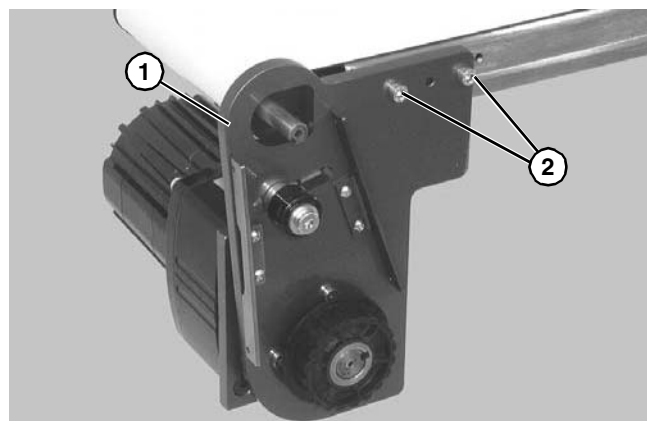

Figure 12
5. Attach mounting assembly (**Figure 12, item 1**) with screws (**Figure 12, item 2**). Tighten to 80 in-lb (9 Nm).